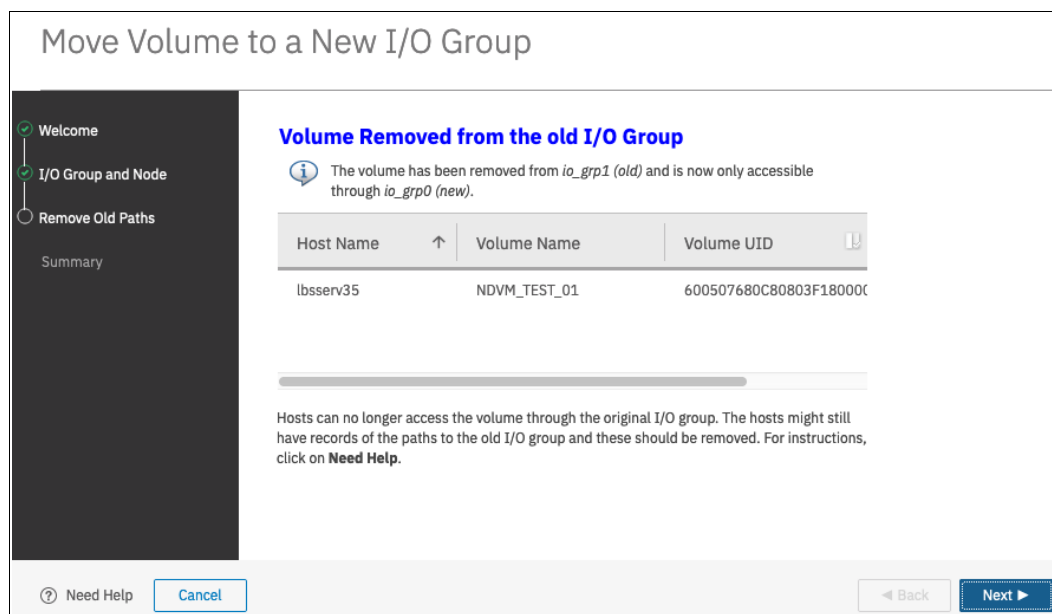

Figure 6-73 Modify I/O Group for a mapped volume wizard: Operation complete
5. Close the detail window to proceed to the final window of the wizard, as shown in Figure 6-73. Now, hosts cannot access the volume through the old I/O group, and depending on the operating system, you might need a restart to remove the dead/stale paths.